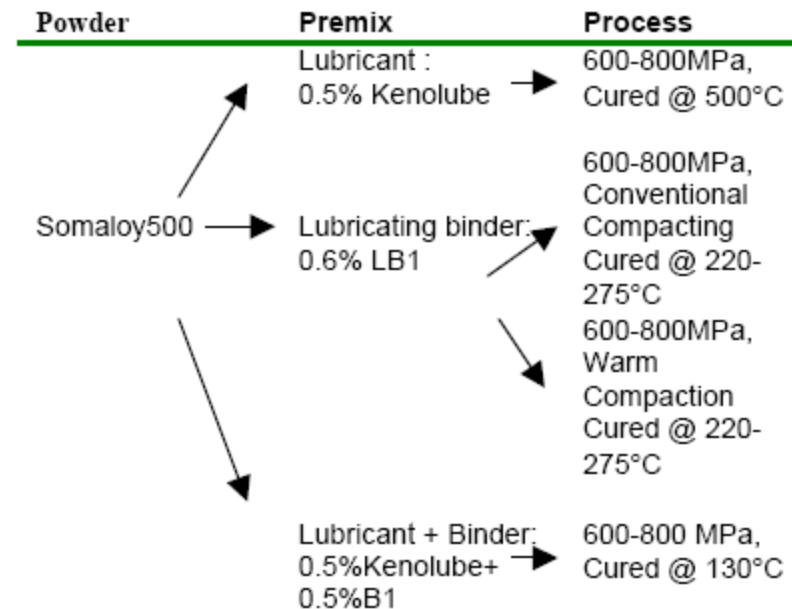

Fig. 2 Processing opportunities with Somaloy™ 500
- ❑ Figure 2 illustrates some production routes used for the SMC material Somaloy™500.